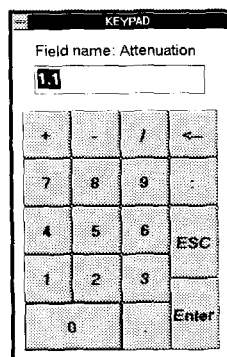

Figure 4-6. Keypad Window
1. Double-click the edit box, using the **right** mouse key, to open the **KEYPAD** window shown in Figure 4-6.